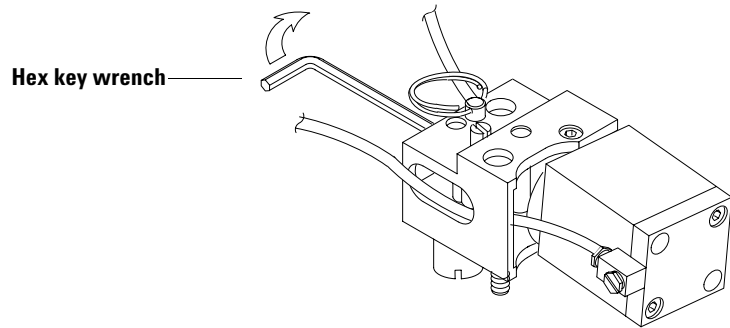

Figure 12 Loosening the lockscrew
- 3 For each actuator, loosen the link arm lock screw in the barrel of the shaft that links the valve and actuator about 1/4 turn (see Figure 12). You may have to apply significant pressure.